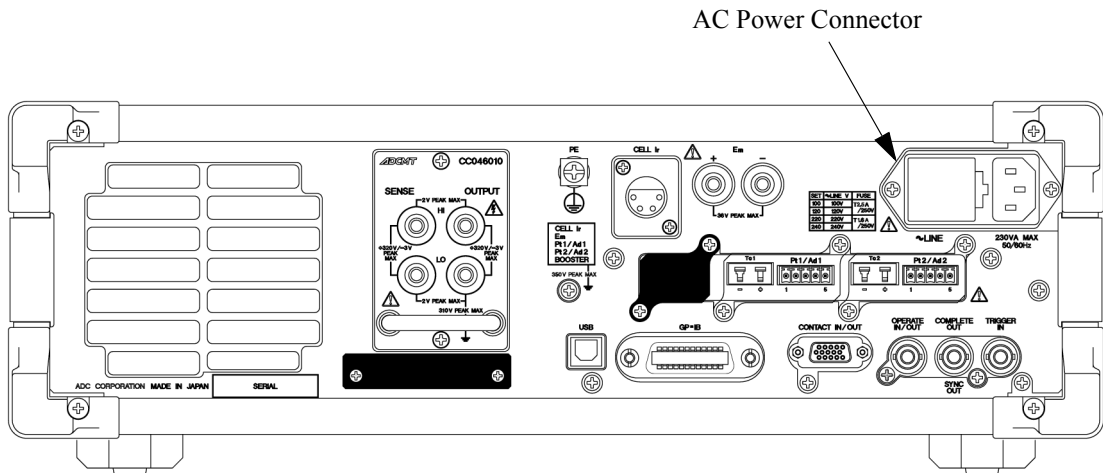

Figure 1-8 Connecting Power Cable
2. Connect the AC power connector on the rear panel to a 3-pin power outlet including a ground terminal by using the power cable. (See Figure 1-8, “Connecting Power Cable.”)
3. Plug the power cable into an AC wall outlet. (See Figure 1-8, “Connecting Power Cable.”)
When the setting parameter condition at Power ON is changed, the screen display may be different from Figure 1-8.